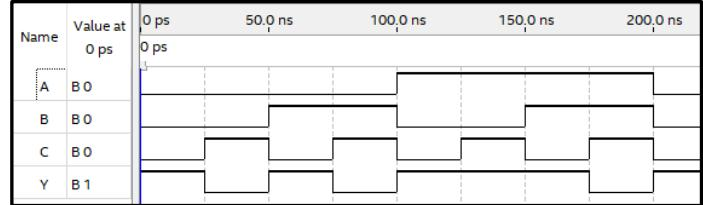

Figure 10: Output of Functional Simulation
1. Zoom in on the window. You should see something similar to Figure 10. This file is not saved, so if you need a copy of it, use something like the “Snipping Tool” in Windows.